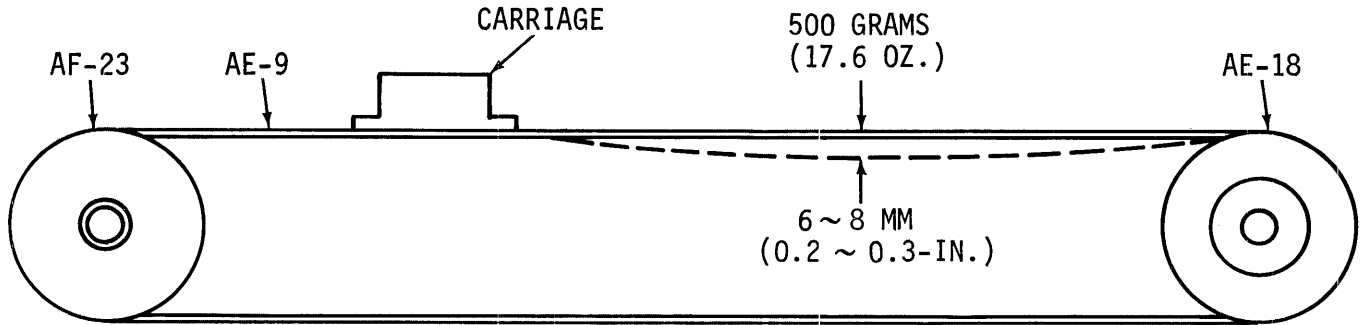

Figure 5-4. MAIN MOTOR BELT ADJUSTMENT (AE-9)
- A. Drive Belt (AE-9) Main Motor ( See Figure 5-4)
- The main drive belt is located between the drive pulley (C) (AE-18) and the idler pulley (AF-23) on the idler pulley shaft (AF-22). With belt in normal operating position, perform the following steps: